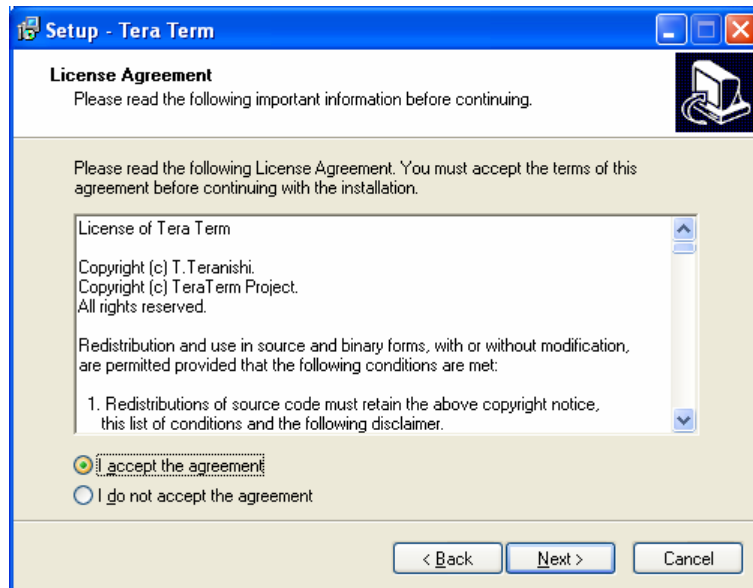

Figure 6-14: Tera Term License Agreement Screen
8. Click the **I accept the agreement** radio button, then click **Next** (Figure 6-14).